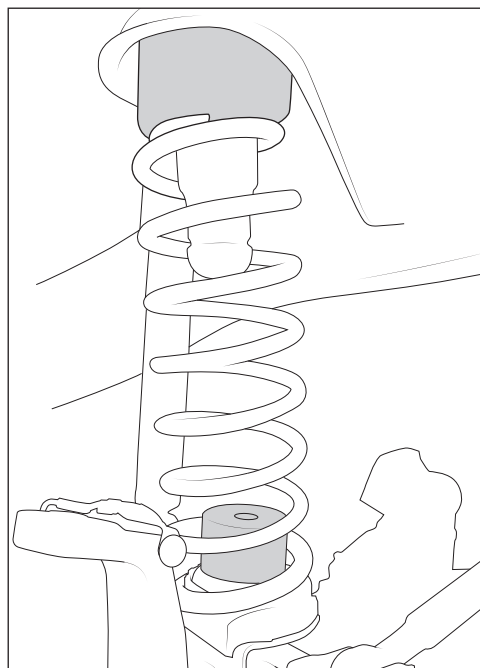

Figure 17
- Install front spring spacers with molded posts pointing upward. Place bumpstop spacer inside spring and install both together (be sure counter-bored hole is on top). With AEV logo facing outward, make sure bot posts on the spring spacer engage the holes in the frame. Make sure spring is properly clocked into the lower spring mount and raise axle slightly to hold the assembly in place (fig. 17).